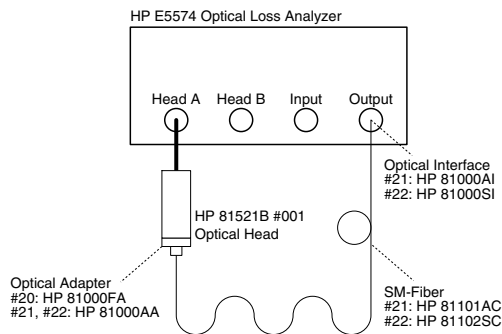

Figure D-8
- a Connect the equipment as shown in Figure D-8.
- d** Unmount the protection cap and connect the equipment as shown in Figure D-8.